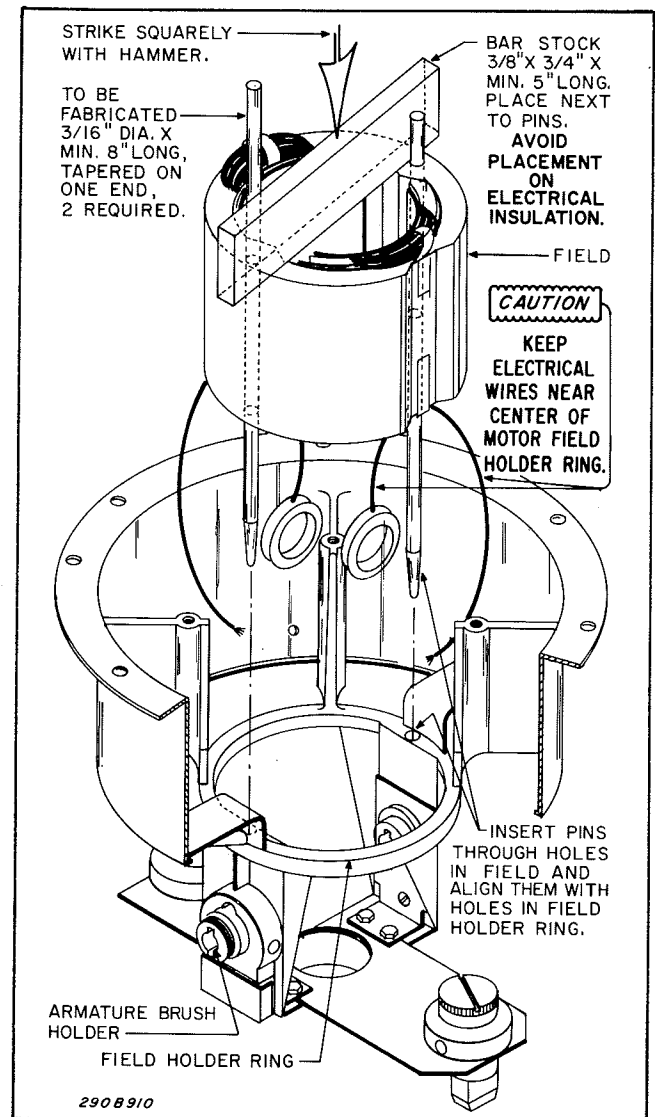

Figure 5-12. Chopper Field Replacement.
6. Fabricate two 8" (203mm.) guide pins from 3/16" (5mm.) metal rod. Taper these pins as indicated in figure 5-12.
7. Insert the tapered end of the pins into the threaded holes in the field holder ring as indicated in figure 5-12.
8. Set the new field on the motor housing with the guide pins passing through the two mounting holes in the body of the field as shown in figure 5-12. Be sure that the four wires are in the position shown in figure 5-12.
9. Set a length of 3/8" (9.5mm.) steel bar stock approximately 5" (127mm) long, or similar object, on the field as illustrated in figure 5-12. Drive the field into the motor housing by firmly and squarely tapping the bar with a hammer. See figure 5-12. Use caution to avoid damaging the field. Also use caution to avoid cutting or otherwise damaging the wires that are connected to the field.
1. See figure 5-12. Remove the insulated cap from the Armature Brush Holder and slide out the worn armature brush. Do not loosen or remove the brush holder.